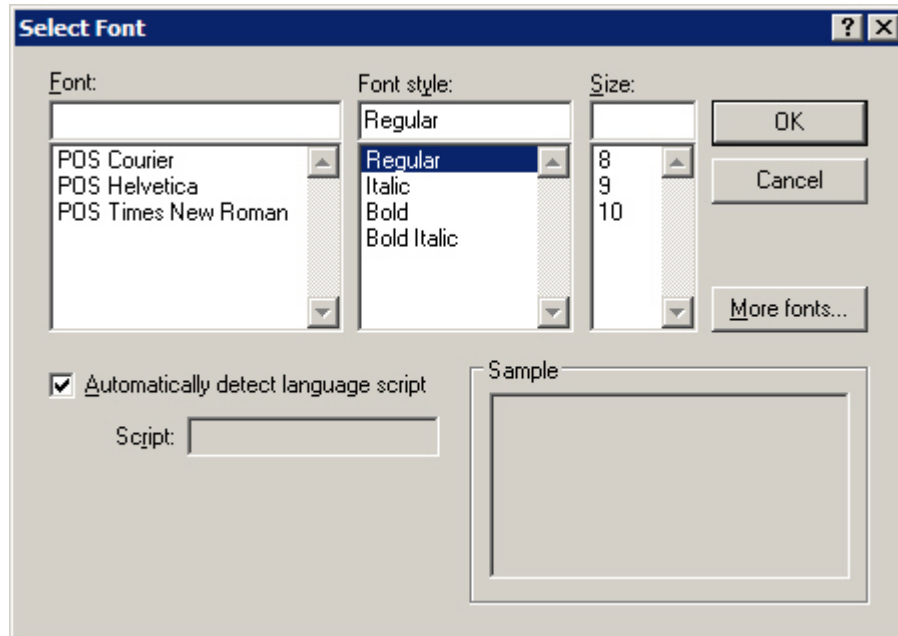

Figure 28. Select Font window
4. Click **Select** for Font 1 or Font 2. The Select Font window opens (see Figure 28).
4. Click **Select** for Font 1 or Font 2. The Select Font window opens (see Figure 28 on page 40).